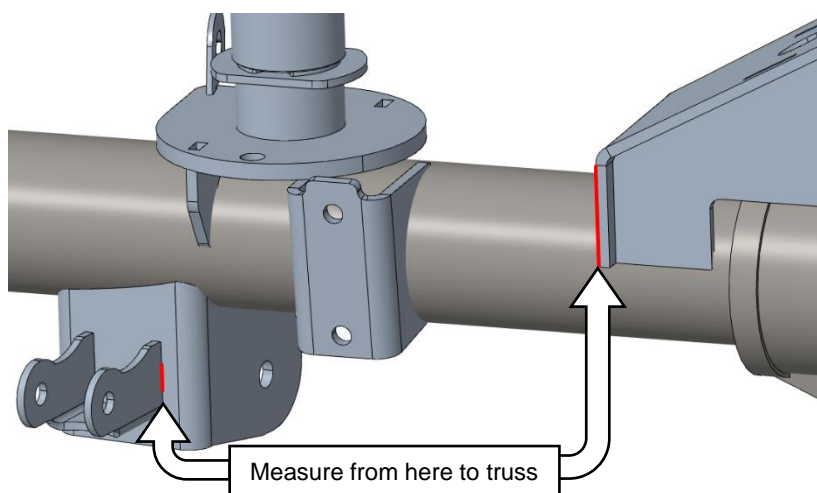

Fig.6
33. Position sway bar mounts on axle, tab pointing up. Rotate up until top edge is parallel with the bottom of coil buckets, tack weld in place (Figure 6). The sway bar mounting surface **is not** perpendicular.